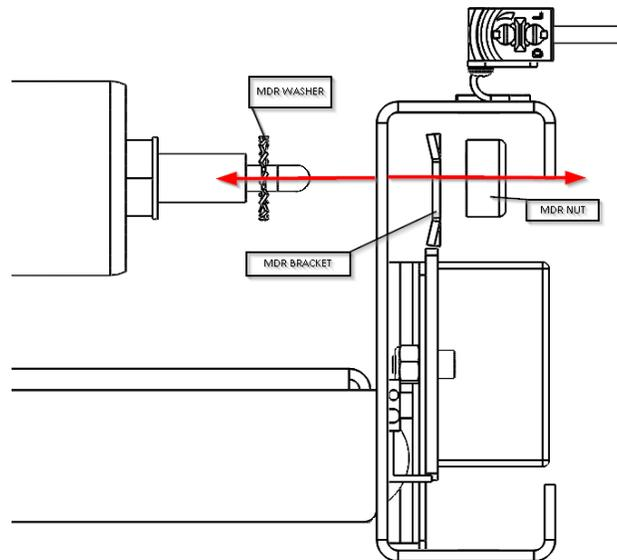

Figure 4: MDR Removal-1
4. Pull the MDR bracket away from the frame. (Refer to Figure 4)